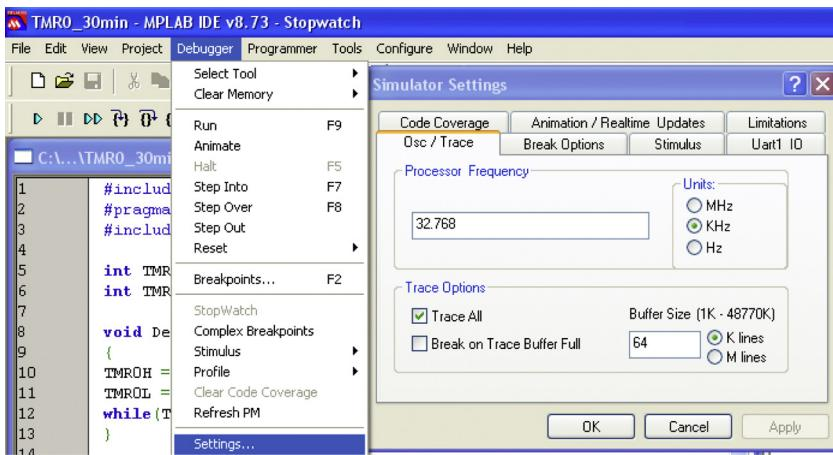

FIGURE 11.6 Setting the clock frequency.
- The processor frequency needs to be set to 32.768 kHz. This is done with Debugger, Settings indicated in Figure 11.6.